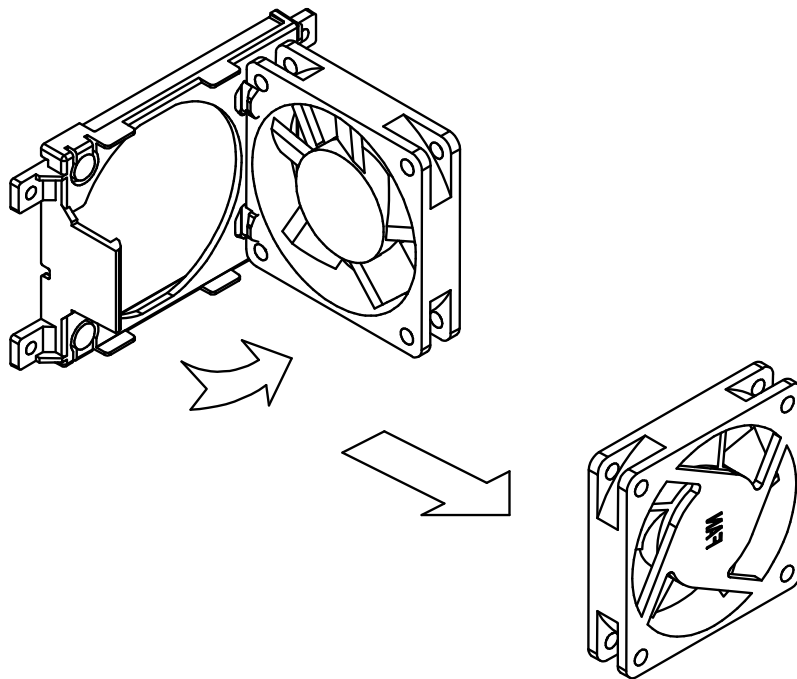

Figure 3.7 Remove the fan from the plastic bracket/ 移除塑膠支架的風扇 / 移除塑膠支架的風扇
3. Push the hook on the left side of the fan to take out the fan (see Figure 3.7).